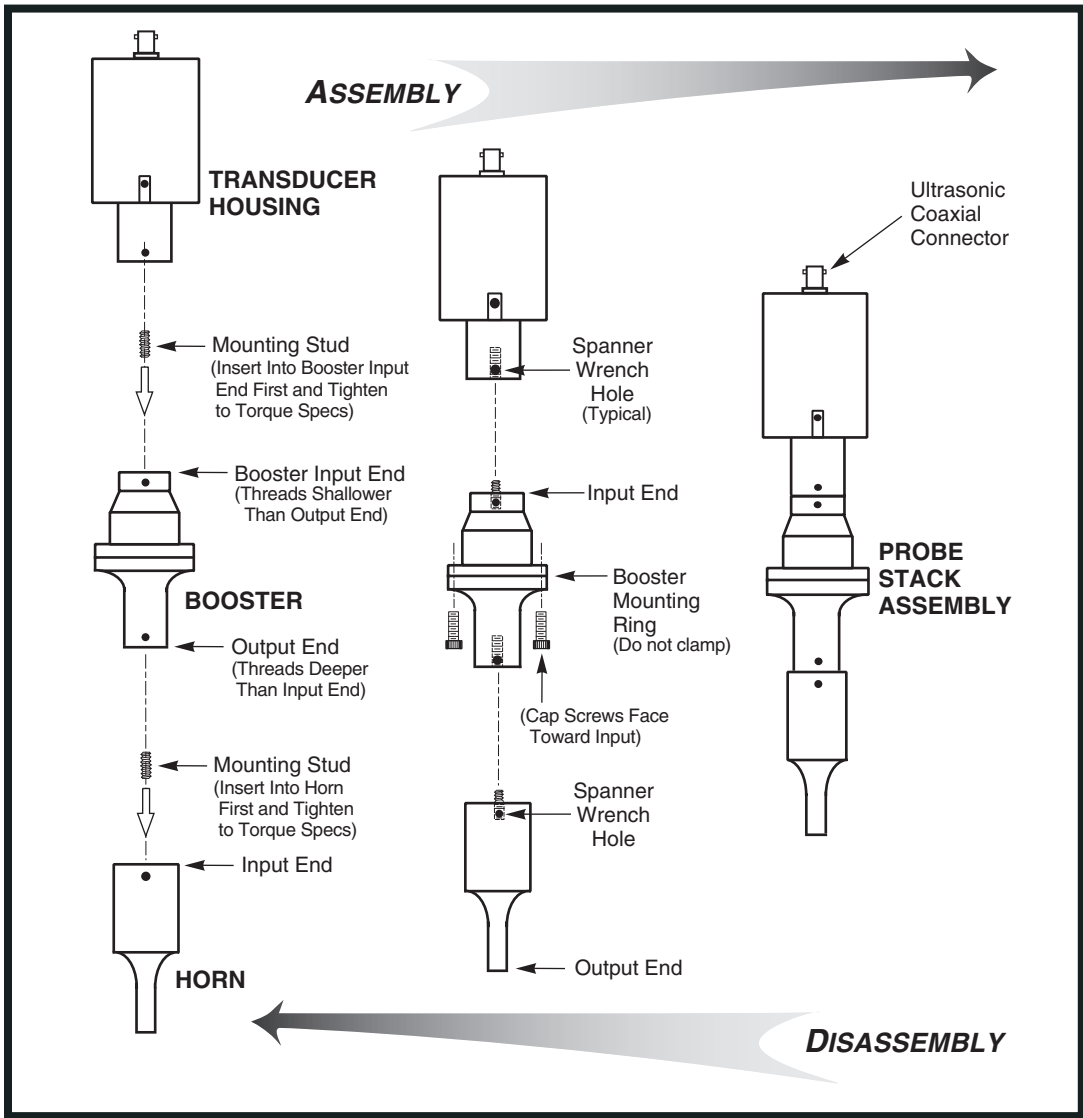

Figure 2-4 Assembly and Disassembly of Probe Stack with Booster
The assembly and disassembly procedures for a hand probe are shown in Figure 2-3. The same procedure for a probe stack with booster is shown in Figure 2-4. It makes no difference whether the horn is attached to the booster first, or the booster is attached to the transducer first.
3. The cap screws on the booster mounting rings are always inserted from the output end toward the input end. See Figure 2-4.